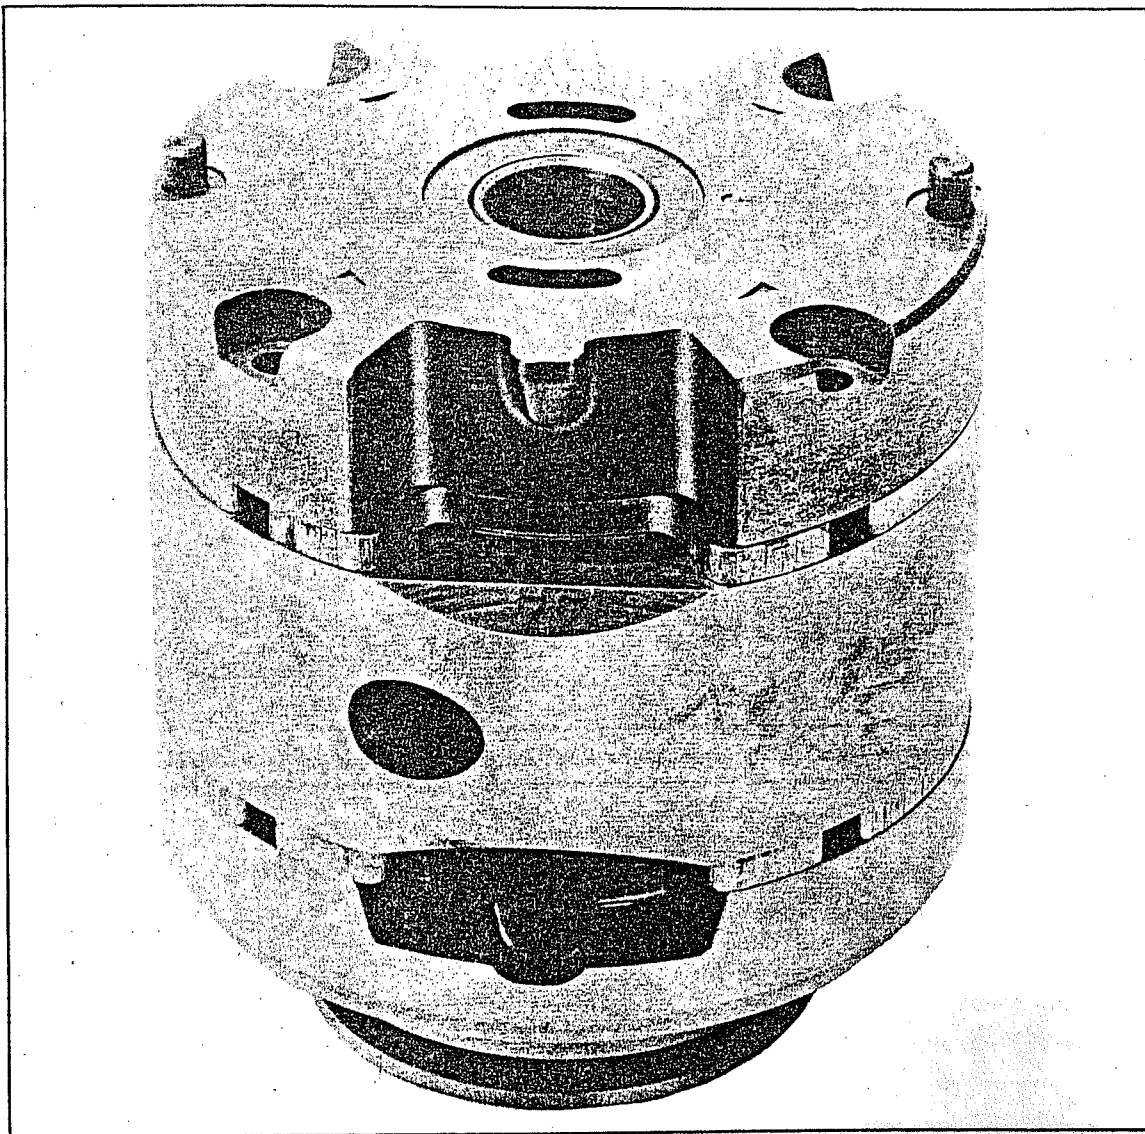

Figure 23. Cartridge ready for Installation of Socket Head Screws.
- g. Lubricate the exposed surface of the rotor and vanes with system fluid. Locate the scribe mark on inlet support plate (21) and flex side plate (23). Hold the inlet support plate and flex side plate together and assemble over the exposed ring, rotor and vanes. Make sure the scribe marks are in line. See Figure 23.